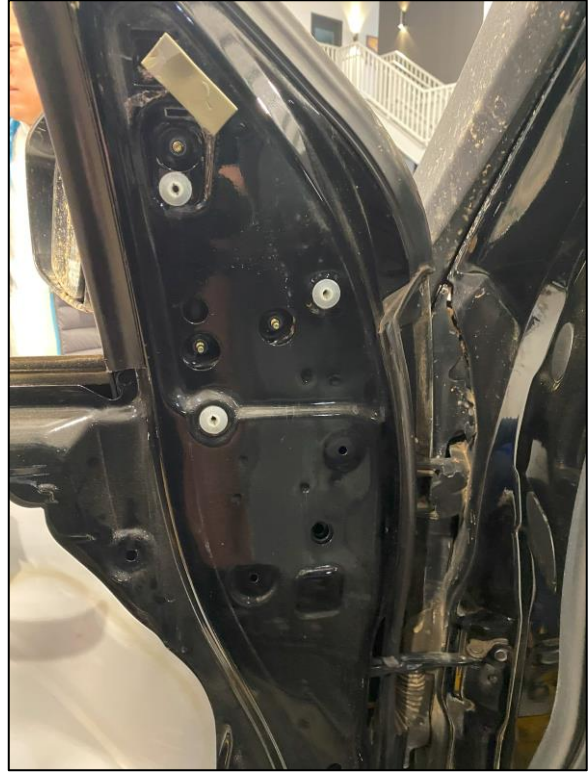

Figure 93
9. Remove the Trim Piece in the corner of the Door with a Trim Removal Tool. *Figure 93.*